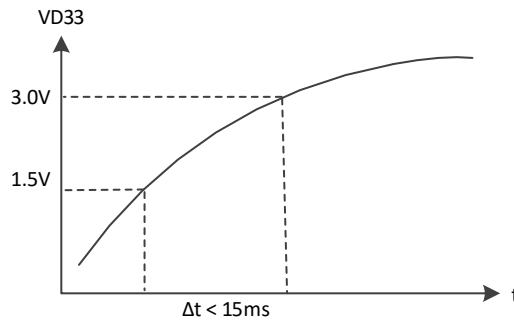

Figure 7-1 Power-on waveform
- The power-on voltage waveform is consistent with Figure 7-1.